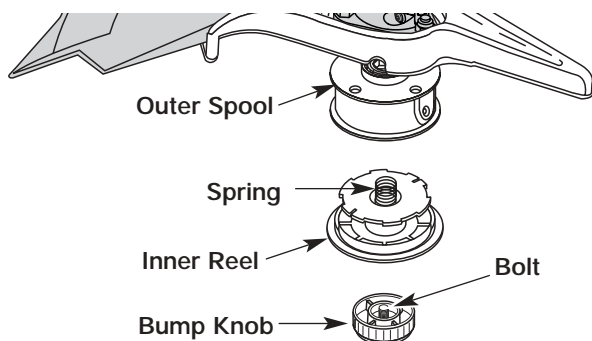

FIGURE 24
1. Hold the outer spool with one hand and unscrew the Bump Knob clockwise, Figure 24. Inspect the bolt inside the bump knob to make sure it moves freely. Replace the bump knob if damaged.
2. Remove the inner reel from the outer spool, Figure 24.
3. Remove spring from the inner reel, Figure 24.
2. Remove the old inner reel from the outer spool, Figure 24.